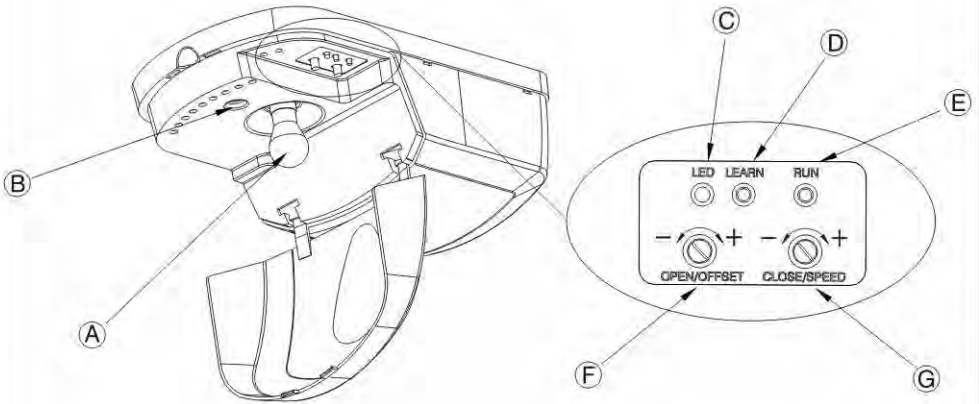

Fig 17
- Hinge open the Lamp Cover (Fig.17-A) to expose the adjustment controls
- With the garage door in the fully closed position - press the black "Run" Button (Fig.17-G) so that the garage door begins movement in the open direction
- As the garage door is opening slowly turn the (green) Open / Offset Adjustment Pin (Fig.17-G) in an anti-clockwise direction until the garage door stops
- Press the black "Run" Button (Fig.17-G) so that the garage door begins to open
- With the garage door in the fully open position, press the black "Run" Button (Fig.17-F) so that the garage door begins to close
- As the garage door is closing - slowly turn the (red) Close / Speed Adjustment Pin (Fig.17-F) in an anti-clockwise direction until the garage door stops and begins to Safety Reverse
- If the XTrac stops but does not reverse then turn the (red) Close / Speed Adjustment Pin five degrees in an anti-clockwise direction. (Fig.17-F)
- Will display green when power supply is active (Fig.17-C)
- In the event of prolonged power outage the XTrac will automatically shut down (when battery voltage drops below 23 volts) in order to conserve remaining voltage - LED Indicator (Fig.17-C) will extinguish and the XTrac will cease to function
- iii. remove the Control Box cover Lock Screw point (Fig.17-B) Note: the Control Box Cover can be removed once the head of the screw is protruding by approx 5mm.
- Hinge open the Courtesy Lamp Cover to expose the bulb (Fig.17-A)
- i. hinge open the Courtesy Lamp Cover to expose the "Learn" Button (Fig.17).
- iii. momentarily press the "Learn" Button (Fig.17-D) – LED Indicator will glow solid (Fig.17-C).
- ii. momentarily press the "Learn" Button (Fig.17-D) – LED Indicator (Fig.17-C) will glow solid.
The black "Run" Button (Fig.17-E) is located under the Lamp cover and serves to initiate the functions as described in the following table;